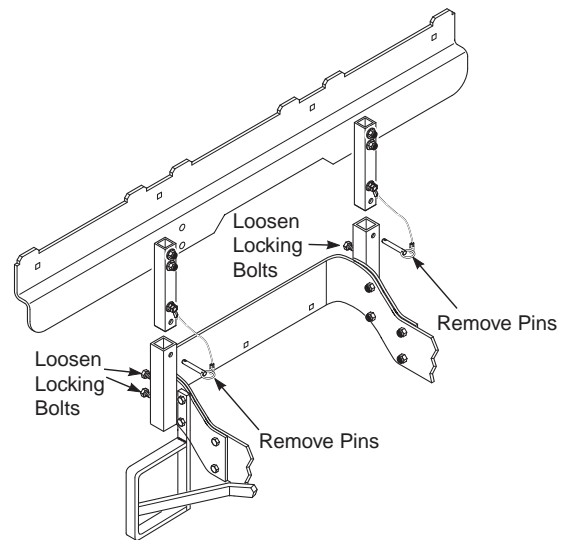

FIGURE 4-2
5. Loosen the locking bolts and remove the two pins holding the hood assembly to the mounting posts on the rear of the machine. See Figure 4-2.